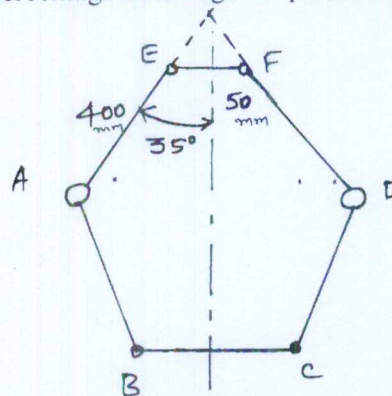

Fig.Q9(a)
- 9 a. In an open-arm type governor shown in Fig.Q9(a). $AE = 400$ mm, $EF = 50$ mm and angle, $\theta = 35^\circ$. Determine the percentage of change in speed when θ decrease to 30° .